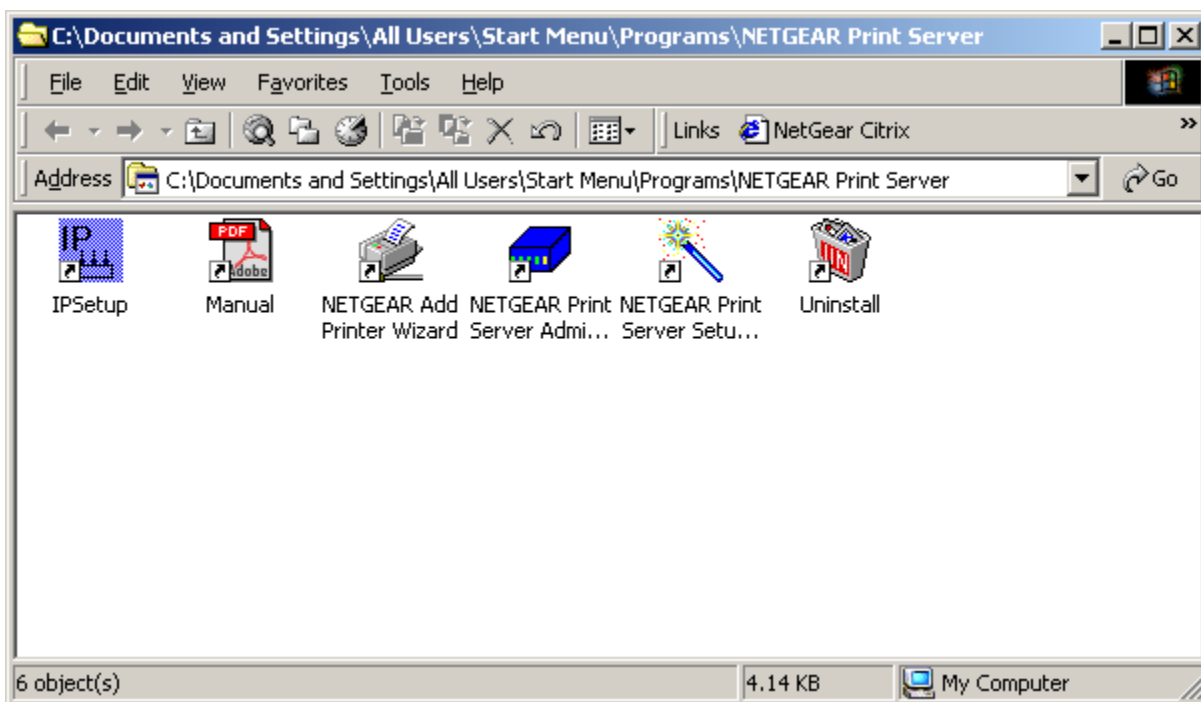

Figure 4-8 NETGEAR Print Server
2. Double-click on NETGAER Print Server Setup Wizard in the NETGEAR Print Server window, Figure 4-8.